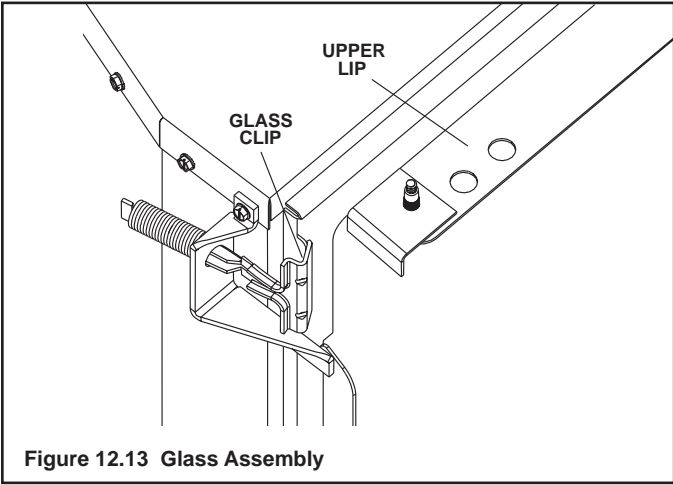

Figure 12.13 Glass Assembly
- Grasping the upper lip with one hand and the lower lip with the other, pull the bottom of the glass out first. Guide the bottom while letting the top drop down under the top of the opening (see Figure 12.13).